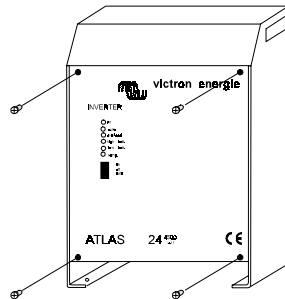

Fig. 1
- Unscrew the four screws on the front panel of the housing, see Fig. 1.